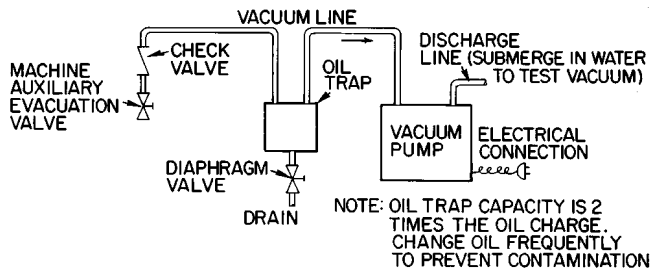

Fig. 10 — Auxiliary Evacuation Device
1. Connect auxiliary evacuation device (Fig. 10) to auxiliary evacuation valve. Be sure that the line is as short as possible and that line size is not smaller than connection to auxiliary device. A check valve or oil trap must be used on the suction lines to keep vacuum pump oil out of the chiller. Be sure that all connections are vacuum tight.